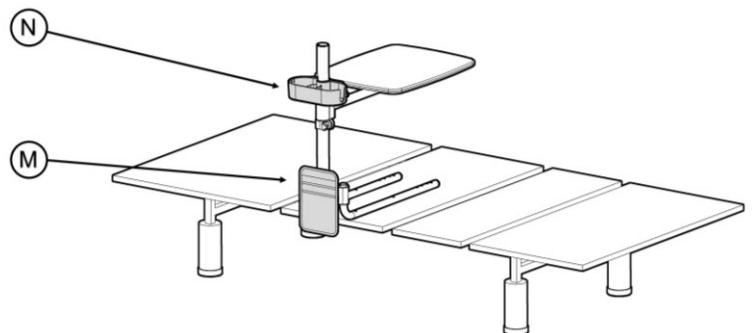

**FIGURE 9**
9. Use Center Screw on **L** to level tray. Once level, firmly tighten two outer screws on **H** to lock in place. *FIGURE 9*